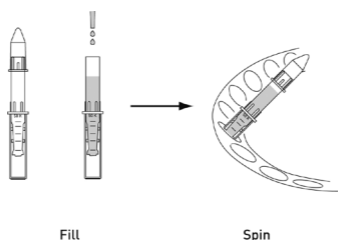

Figure 3. Use of the Antibody concentrator (2 ml, 50K).
- 3.1 Remove the conical collection tube from the antibody concentrator as shown in Figure 3.
- 3.4 Add 1.6 ml of 1× TBS and 400 µl of the azide-activated antibody from step 2.5 to the antibody concentrator (Fig. 3).
- 5.1 Remove the conical collection tube from a new antibody concentrator as shown in Figure 3.
- 5.2 Add 2 ml of 1× TBS or PBS to the antibody concentrator and centrifuge at 1200× g for 10 min. **Make sure that one membrane panel of the concentrator faces the center of the rotor** (Fig. 3).
- 5.5 Centrifuge at 1200× g for 10 min. **Make sure that one membrane panel of the concentrator faces the center of the rotor** (Fig. 3).
- 5.7 Add 1× TBS or PBS to a total volume of 2 ml to the antibody concentrator and centrifuge at 1200× g for 10 min. **Make sure that one membrane panel of the concentrator faces the center of the rotor** (Fig. 3).